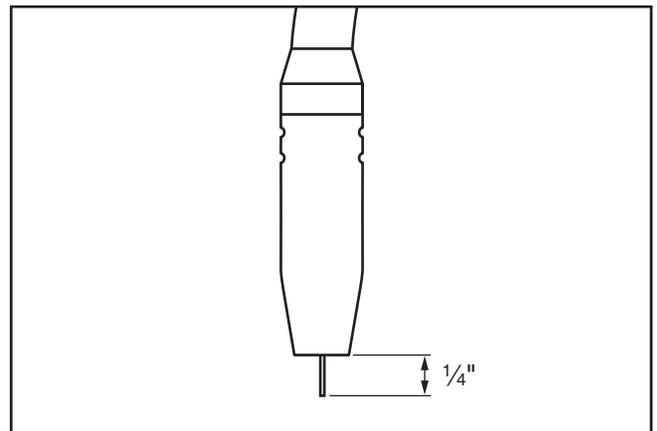

Figure 20. Welding wire stick-out.
5. Point gun away from yourself and any conductive material. Squeeze trigger to release welding wire. Cut back wire to about 1/4" stick-out from contact tip (see **Figure 20**).